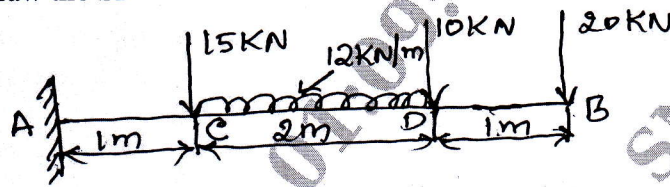

Fig.Q5(b)
- b. A cantilever beam carries UDL and point loads as shown in Fig.Q5(b). Find the reactions at the fixed end and draw the SFD and BMD.